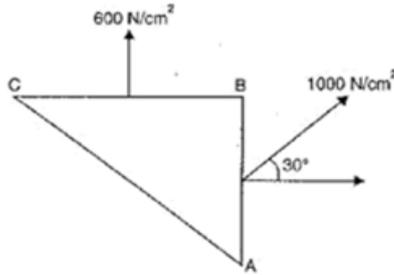

Fig. 3.16 (c)
10. At a certain point in a material under the intensity of the resultant stress on a vertical plane is 1000 N/cm^2 inclined at 30° to the normal to that plane and the stress on a horizontal plane has a normal tensile component of intensity 600 N/cm^2 as shown in Fig. 3.16 (c). Find the magnitude and direction of the resultant stress on the horizontal plane and the principal stresses.